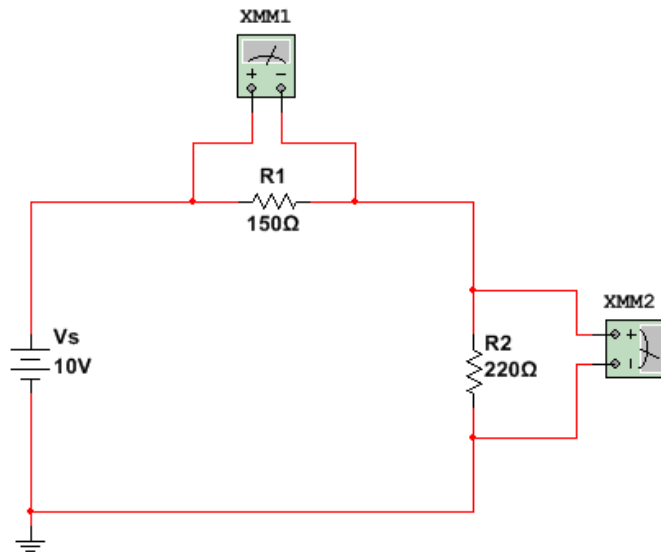
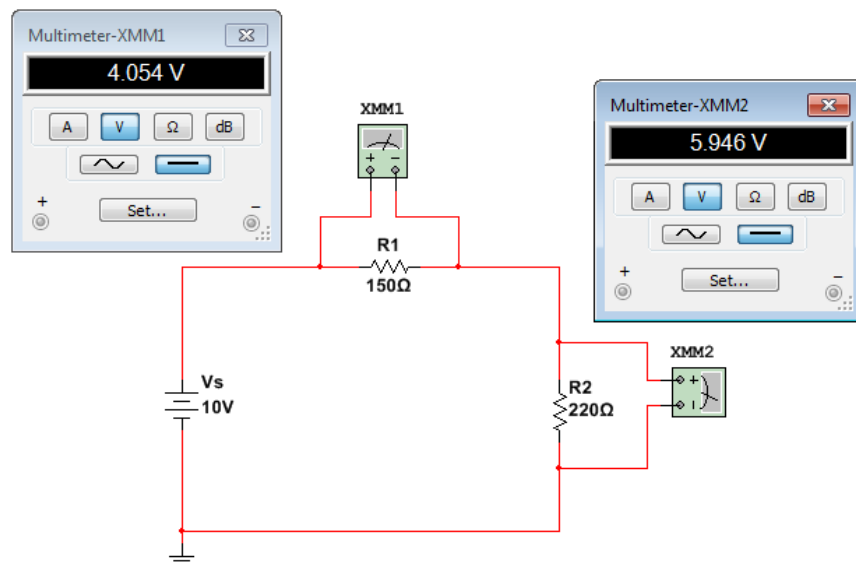

Figure 4.16 – To measure voltage across $R1$ and $R2$
Figure 4.17 – Voltage measurement across $R1$ and $R2$
- Attach the multimeter's probes in between two nodes of R1 and R2 respectively. Check Figure 4.16
- Since the circuit at Figure 4.16 is set to measure dc voltage, to do so, click on Voltmeter  to measure the voltage between two nodes. Check Figure 4.17.